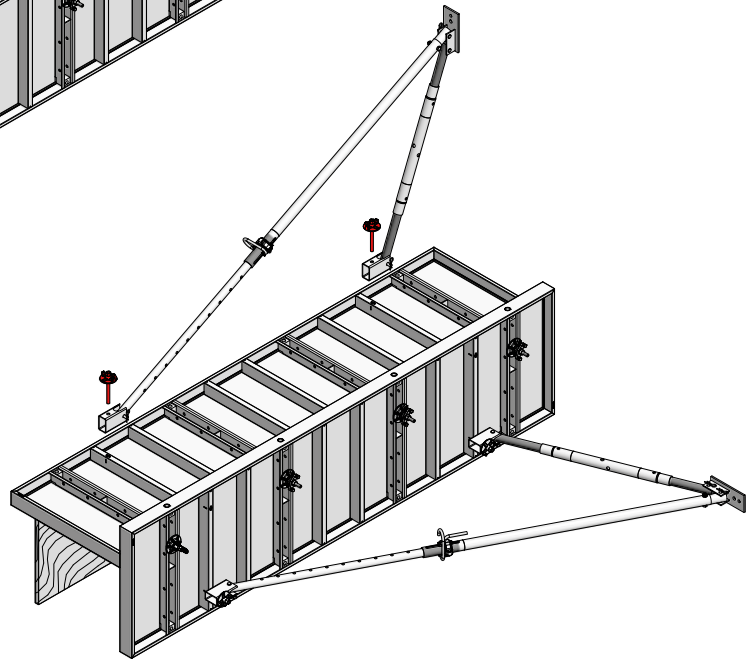

Fig. 42.2
3. Attach a total of three heavy-duty props to suit the formwork height (Figures 42.2 and 42.3 and page EA-17). Secure each heavy-duty prop with two flange screws 18.